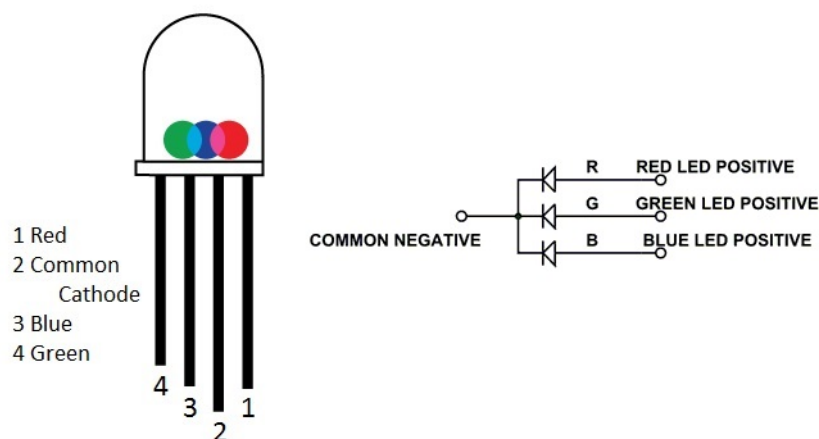

Figure 1: The pin configuration of the given RGB LED Lamp.
1. A diode is a polarized device that allows current to flow in only one direction. The positive side “+” is called the anode where current enters, and the negative side “-” is called the cathode where current leaves. An LED (Light Emitting Diode) is a type of diode. The given RGB LED Lamp houses three colour LEDs inside the lens, namely, Red (R), Green (G), and Blue (B). The RGB LED Lamp has a common cathode (pin 2 – the longest pin). The other pins, 1, 3, and 4, are the anodes (“+”) of the respective colour LEDs as indicated in Figure 1 below. Notice the symbolic drawing of a diode, which consists of a triangle and a line. The triangle in the symbol points to the forward direction in which the current flows.